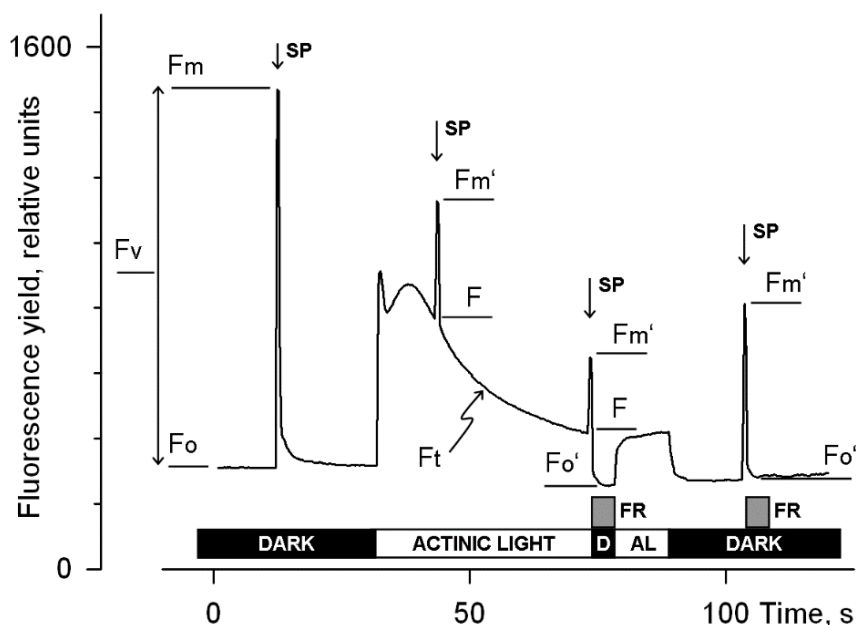

Fig. 98: Fluorescence Levels of Saturation Pulse Analysis
The five principal levels of PAM fluorescence which are used for saturation pulse analysis are shown in Fig. 98. Two of these levels (F_0 and F_M) must be measured with the dark-acclimated sample. The three other levels (F_0' , F , and F_M') are measured with the actinic light-exposed sample or in a dark period following this light treatment. Some parameters of saturation pulse analysis require fluorescence measurement of the same sample in both the dark-acclimated and light-exposed state (Table 28, page 174).
- F_0'** Minimum fluorescence level of illuminated sample. The F_0' is lowered relative to F_0 by non-photochemical quenching. The measuring routine for F_0' (see Fig. 98, page 167) determines the F_0' level during a dark interval following a Saturation Pulse. In this dark interval, far-red light is applied which selectively drives photosystem I. As